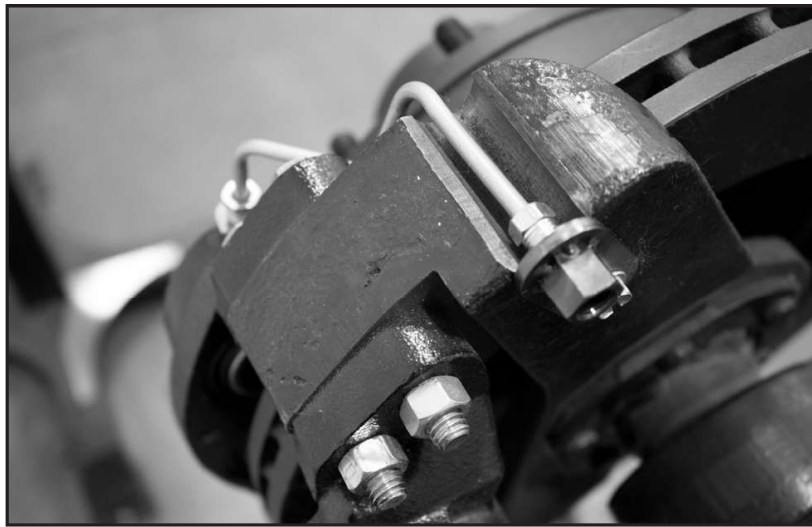

Figure 3
6. Brakes produced after June 2018 will locate the brake bleeder on the inboard caliper. Place the remote inlet brake line and against the caliper mounting bracket as seen in **Figure 3**. Connect the remote inlet brake line to the top side of the piston base of the outboard caliper and torque to **12-15 Ft. Lbs.** Attach the line union to the free end of the remote inlet brake line and torque at **60-76 Inch Lbs.** Position the union mounting bracket against the inboard side of the anchor yoke so the 1/4-20 bolt can be used to hold the fitting in place and be torqued to **85-100 Inch. Lbs.**